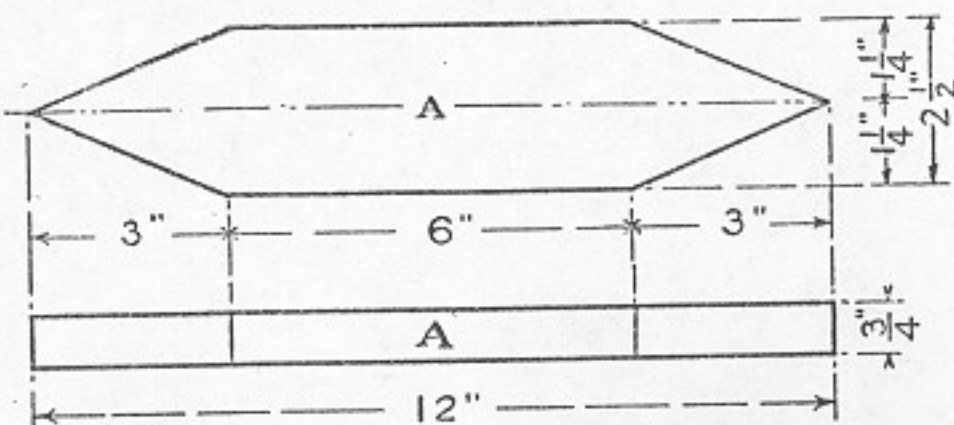

FIG. 283. — Plan and Side Elevation of Hull
The Battleship shown in Fig. 281, with an indication as to how each part is assembled. Dimensions for the parts are given in the detail working-drawings of Figs. 283 to 292. If you build several ships alike, you will save time by making all of the parts for one ship, first, and then using these parts as patterns. Mark out and cut the *hulls* (A) for all the other boats, then the *decks* (B), then the *masts* (C), and so on. Use soft pine, cypress, or other soft wood, for the models.